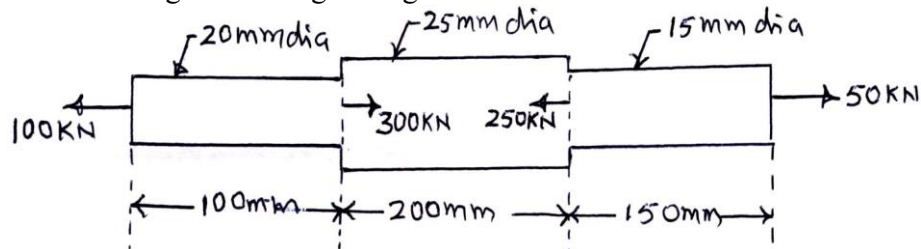

Fig.Q1(c)
c. Determine the stresses in various segments of circular bar shown in the Fig.Q1(c). Also compute the total elongation taking Young's modulus $E = 195 \text{ GPa}$.